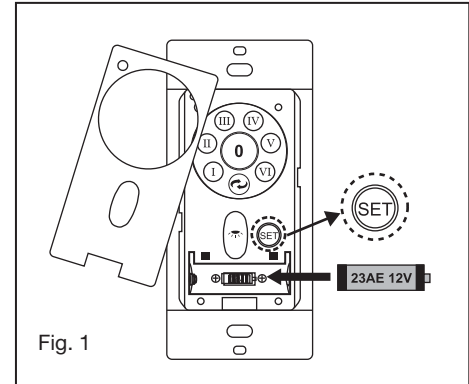

Fig. 1
- 1 Remove two collar mounting screws from the yoke on top of the fan motor assembly. Take off the yoke cover. (Fig. 1)
1. Insert the receiver into the ceiling mounting bracket with the flat side of the receiver facing the ceiling. (Fig. 1) For best performance, make sure the Black Antenna, on the end of the receiver, remains extended and not tangled with any of the electrical wires.
- 1 Place fiber washer on screw. Insert this assembly through the blade and start the screw into the blade arm. Repeat this procedure without tightening the screw until all 3 screws have been started into the blade arm (Fig. 1).
- 2 Place the key holes on the mounting plate over the 2 screws previously loosened from the mounting hub, turn mounting plate until it locks in place at the narrow section of the key holes. Secure by tightening the 2 screws previously loosened and the one previously removed. (Figure 1)
- 1 Remove the existing wall plate and the old switch from the wall outlet box. (Fig. 1)
Follow the below steps to use the set button. (Fig. 1)